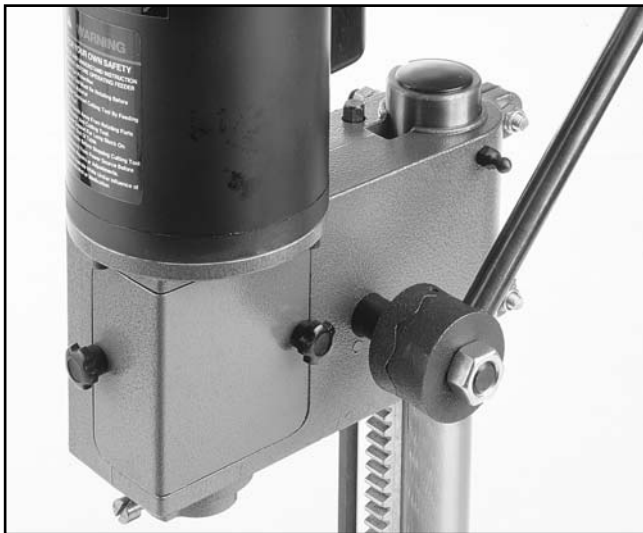

Figure 1.
1. Screw the handle bar into the adjustable gear on the right side of the mortising machine and raise the head to its highest position. **Figure 1.**